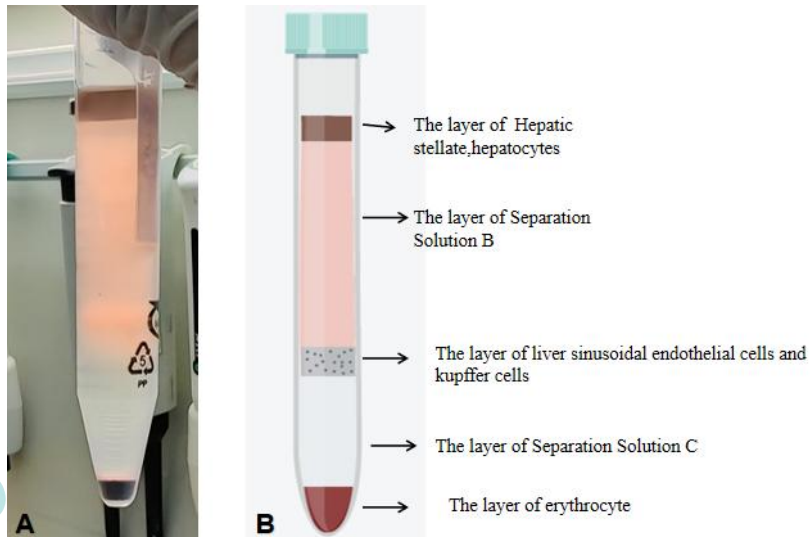

Figure 4. Reference image of cell suspension after centrifugation with separation solution
- (5) After stratification, centrifuge tube at 900 g for 15 minutes (set the acceleration to 1 and the decelerate to 0); After centrifugation, the liquid can be seen to be divided into 5 layers, from top to bottom: the top layer is approximately 2-5 mm thick liver stellate cells, the second layer is approximately 6 mL separation solution B, the third one is approximately 2-3 mm thick liver sinusoidal endothelial cells and mixed cells (hereinafter referred to as the white membrane layer), the fourth is approximately 3 mL separation solution C, and the bottom layer is approximately 2-5 mm thick red blood cell precipitation (as shown in Figure 4).
- (6) Discard the top layer of cells and use a 1 mL pipette tip above the white membrane layer. Carefully remove the cells from the third layer of white membrane layer into a new sterile 15 mL centrifuge tube, add 5 mL of **Specialized Washing Solution For Mouse Liver Sinusoidal Endothelial Cells** to resuspend the cell suspension, centrifuge at 400 g for 5 min, discard the supernatant, and retain the precipitate.